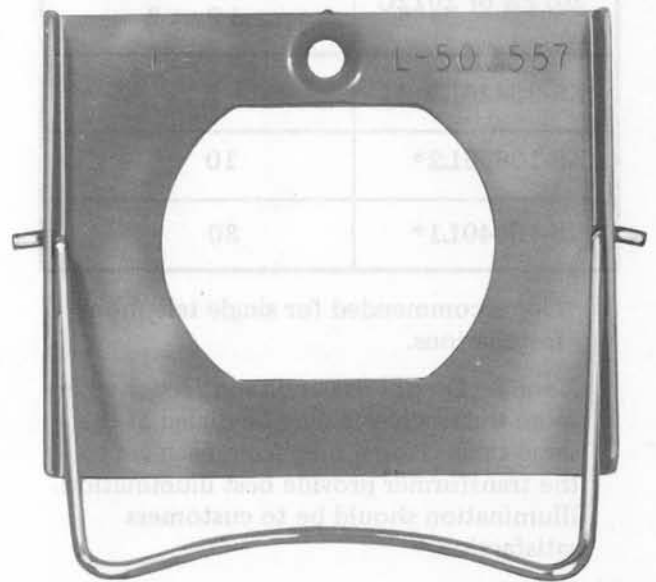

Fig. 13—Clamp for Mounting Early Version KS-20426L3 Transformer Not Equipped With Molded Mounting Tab
5.02 The transformer is self-protecting with an automatic thermo switch and is provided with primary terminals in the form of parallel blades which serve as the mounting device. If furnished, the clamp (Fig. 13) must be used to hold the transformer securely in the receptacle.
**Danger:** For safety, securely attach retaining clamp to ac outlet using outlet cover screw **BEFORE** attempting to install KS-20426L3 transformer. See Fig. 13. When removing KS-20426L3 transformer, always unplug the power unit completely from the outlet **BEFORE** attempting to remove the retaining clamp. This will prevent the possibility of a loosened retainer clamp or metallic outlet cover making contact with the ac prongs of the KS-20426L3 transformer when partially withdrawn from outlet. Do not use KS-20426L3 transformer retaining clamps on outlets where the cover mounting screw holds the duplex outlet in the box.